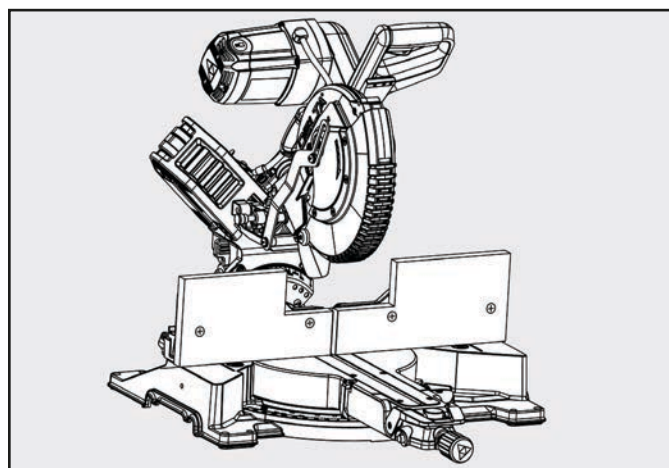

Figure 24
2. Place auxiliary fence wood against miter saw fence. See figure 24. The maximum height for this wood must not exceed 5.5". Check to make sure auxiliary fence does make contact with saw head, check with saw head in the full DOWN and fully RETRACTED position.